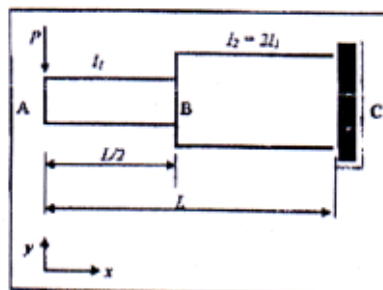

Figure 1 (Shaft fixed at end C)
- Q2)** a) Using castigliano's theorem, determine the deflection of point A of the step shaft as shown in figure 1. The second -area moment of the beam between points A and B is I_1 , and from B to C the second -area moment is $I_2 = 2I_1$, The entire beam is made of a material with modulus of elasticity of E . [8]